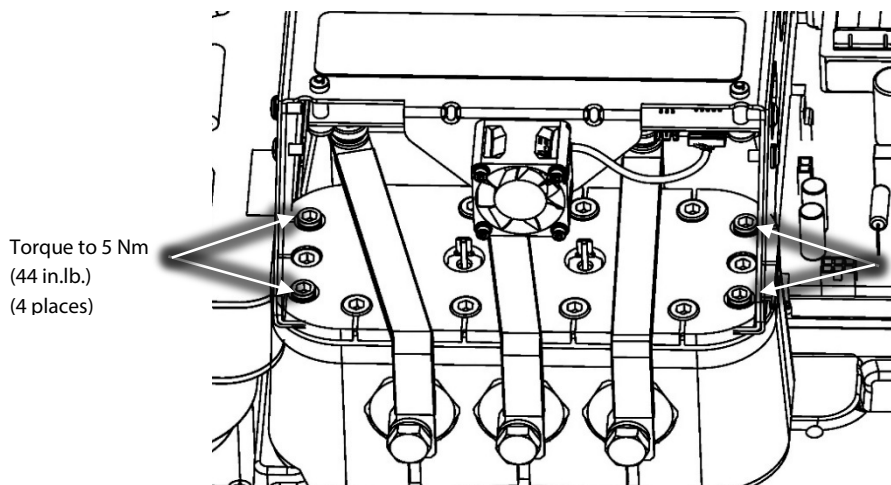

Figure 2 – Soft Start Mounting Screws
- Remove the M5x15 fasteners that secure the Soft Start mounting bracket to the compressor. Refer to Figure 2 (Soft Start Mounting Screws).